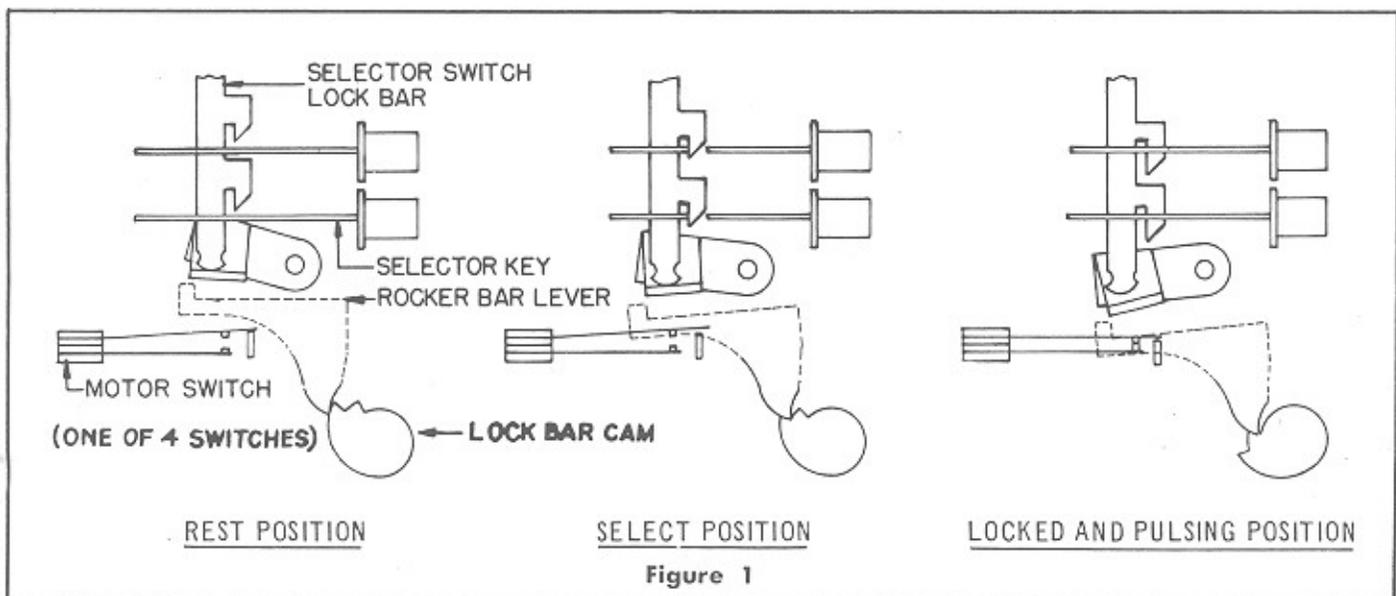

Figure 1
There are three important positions of the cam cluster for each cycle, namely, the Rest Position, Select Position, and the Locked and Pulsing Position. These positions are shown in Fig. 1.
1. Turn the gear motor manually until the rocker bar lever falls into the first notch of the cam farthest away from the contact biscuit assembly. (See "Select Position" of Fig. 1.)